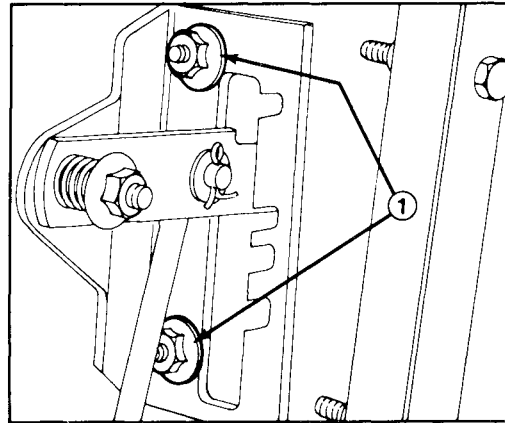

Figure 30
2. Loosen flange nuts securing selector plate to escutcheon plate. This allows selector plate to move freely for adjustment (Fig. 30).